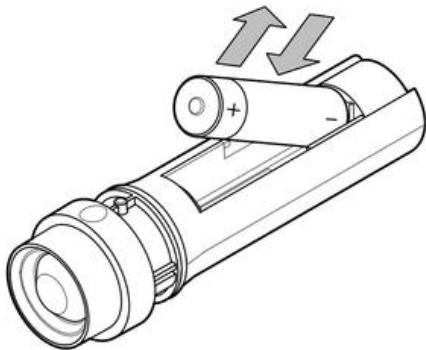

Fig. 9
2. Remove the exhausted battery and insert a new one. Make sure that the positive and negative battery terminals are properly aligned (Fig. 9).